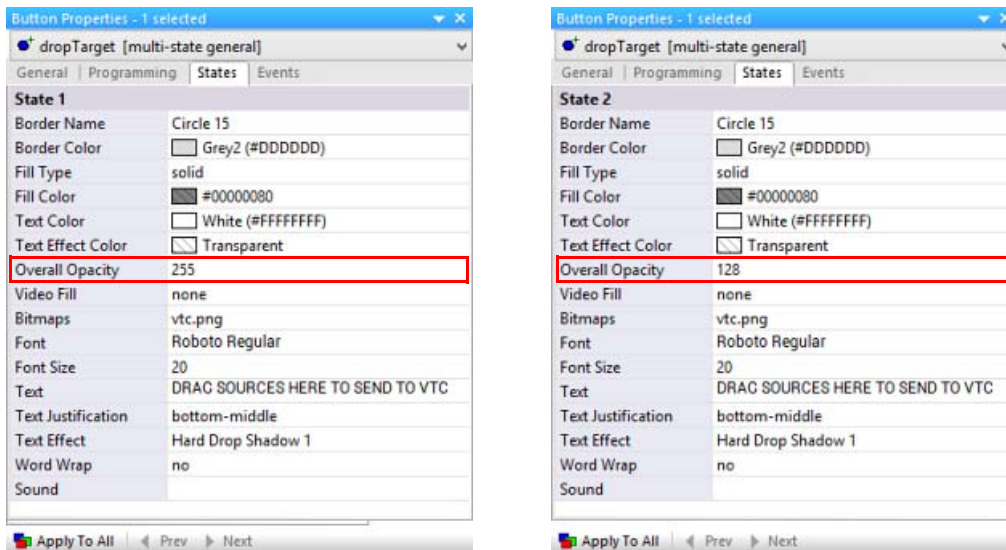

FIG. 229 State Manager context menu - Insert States
2. In the State Manager window, select *State 1*, and set the State properties as shown in FIG. 229:
3. In the State Manager window, select *State 2*, and set the State properties as shown in FIG. 229: